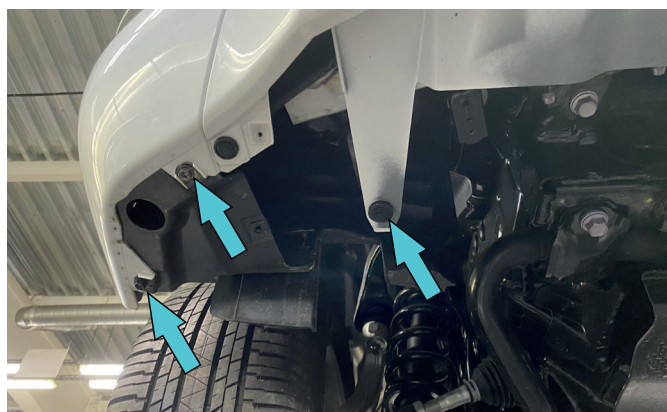

Fig.9
9. Unscrew OE screws shown in fig.9 on both sides of the vehicles.